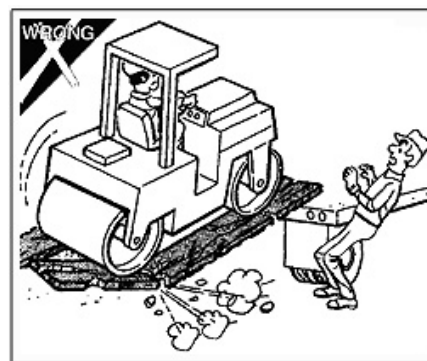

Figure 1-13
- Use ramps for loading the compactor. always ensuring that the ramp is in great shape conditions. Use metal ramps whenever possible and never use deteriorated ramps (figure 1-13). Make sure that the ramp is well positioned between the machine of transport and the ground and that is not covered with oil, snow, ice or mud.